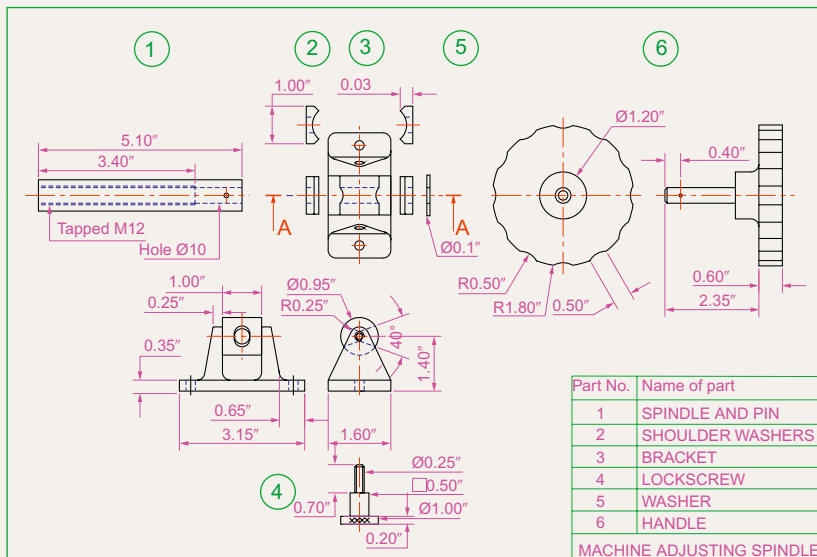

Fig. 11.18 Exercise 2
- Construct a similar sheet set as in the answer to Exercise 1 from the exploded orthographic drawing of a **Machine adjusting spindle** given in Fig. 11.18.